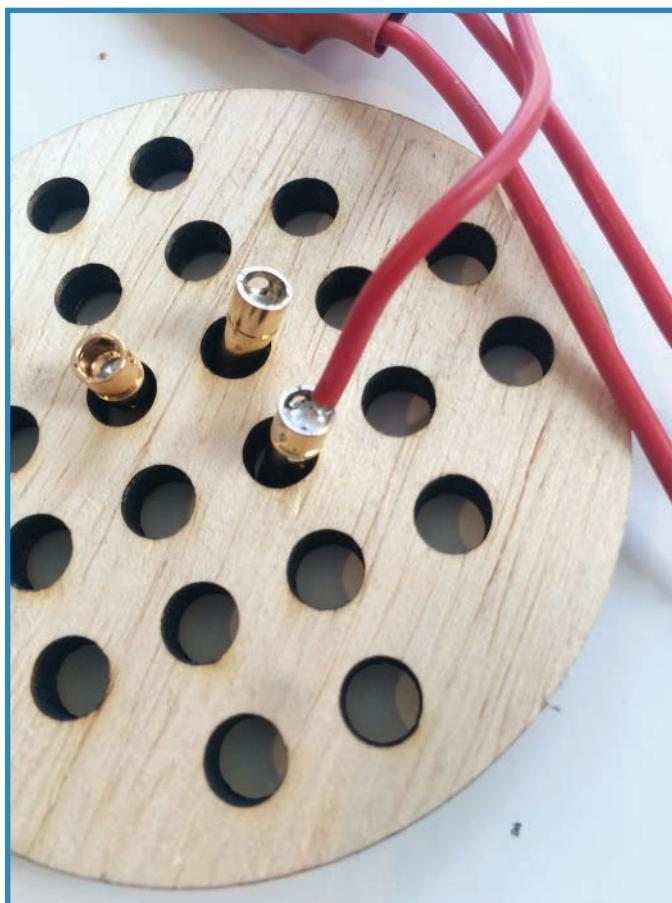

FIGURE 10.9 Solder on the bullet connector.
5. **Solder them on.** Put a tinned wire end into one of the connectors. Put your soldering iron tip to the hole, which will help melt the solder inside it. You may want to add some more hot solder around the top of the connector if it seems loose. Figure 10.9 shows how it should look.